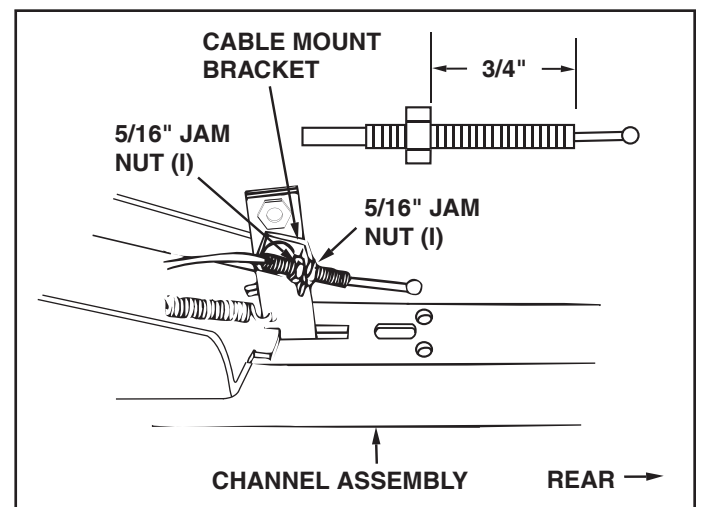

FIGURE 15 (Left Hand Side View)
- Assemble a 3/8" x 1-1/4" carriage bolt (E) through the square hole in the cable mount bracket and through the square hole in the angle lock bars. (The carriage bolts should face in opposite directions.) Using pliers hold the cable mount bracket in position, angling down towards the L.H. hole in the channel as shown in figure 15. Secure with a 3/8" nylock nut (L). **Tighten**. Refer to the figure for the correct angle for the cable mount bracket.
STEP 15: (SEE FIGURE 15)
- Assemble one 5/16" jam nut (I) approximately 3/4" onto threaded end of control cable that has no rubber cap or preassembled nuts. Assemble threaded cable end through round hole in cable mount bracket and secure with another 5/16" jam nut (I). **Tighten**.